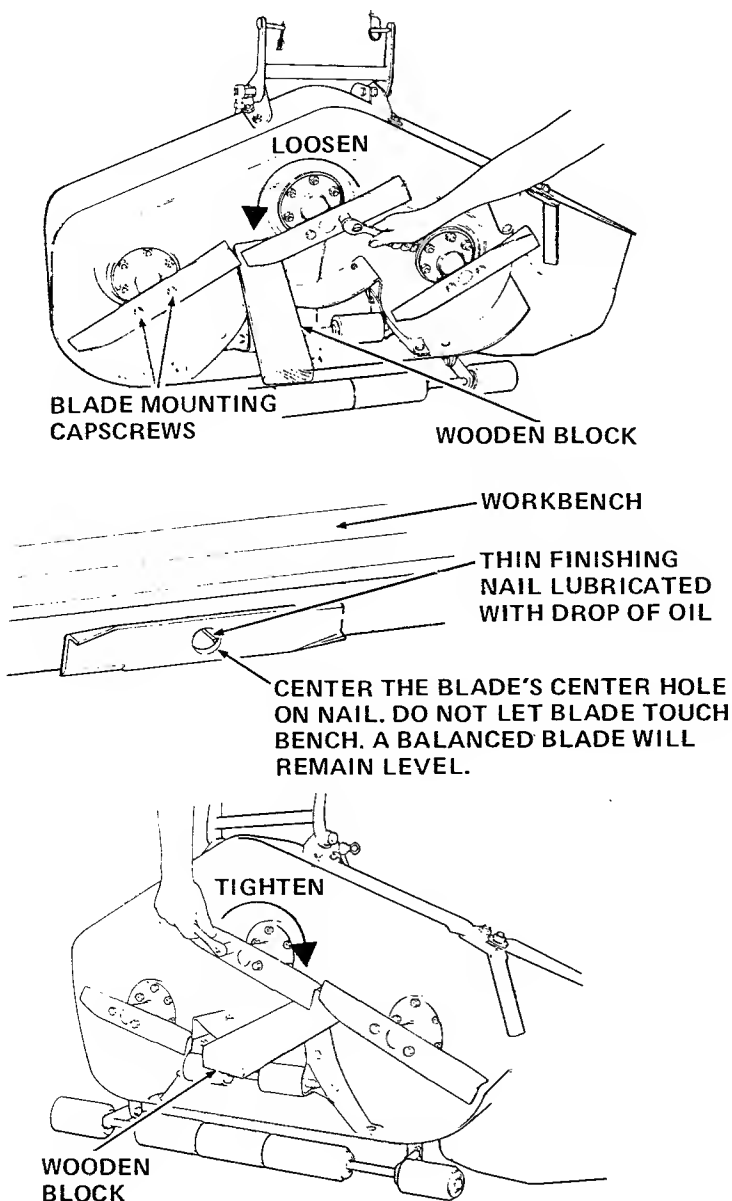

Figure 17. Check, Sharpen, and Balance Mower Blades (Yearly Care)
5. Check, sharpen, and balance the mower blades. (See figure 17.)
| 5. Excessive mower vibration. | A. Blade mounting screws are loose; tighten to 32 foot-pounds of torque. B. Mower blades are bent and should be replaced. C. Mower blades are out of balance; remove, sharpen, and balance blades as in figure 17. D. Arbor shaft bent due to impact; check shaft for wobble. |